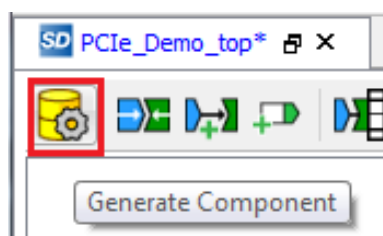

Figure 33 • Generate Component
34. Open the **PCIe_Demo_top** tab and click **Generate Component** as shown in Figure 33.